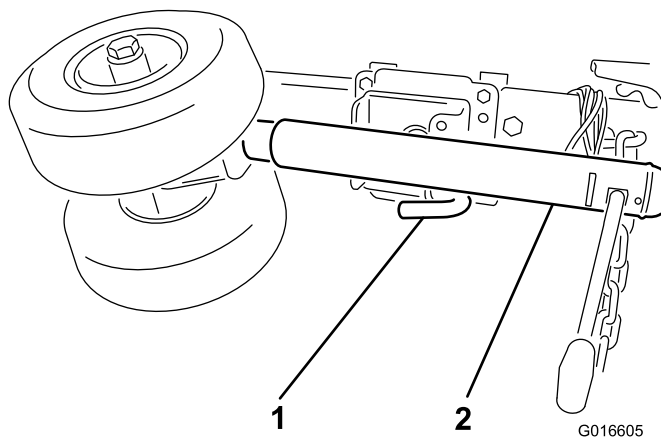

Figure 6
8. Raise the jack stand so that the caster wheels are free of the ground, pull the release pin and rotate the wheels rearward and lock it in the horizontal position (Figure 6).